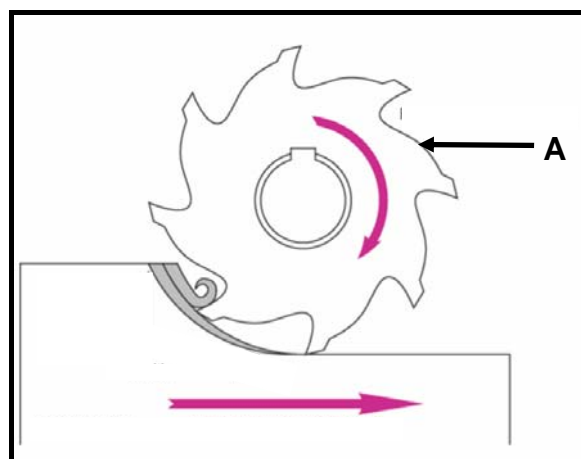

FIGURE 1.2
1.7 FIGURE 1.2 shows an operation to machine a work piece. Identify tool A shown in the figure.